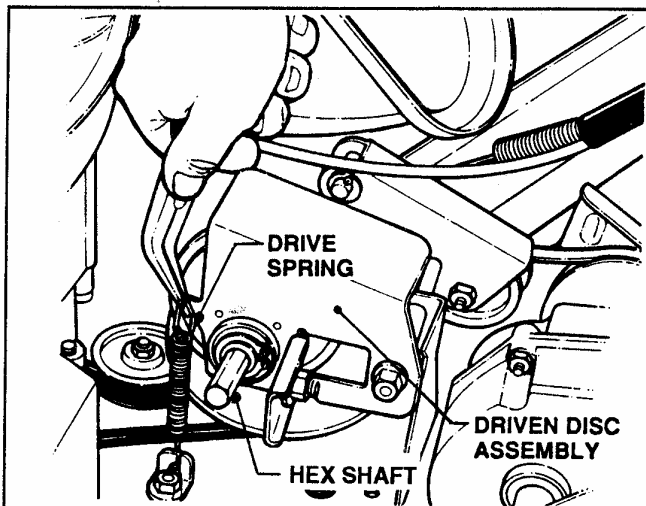
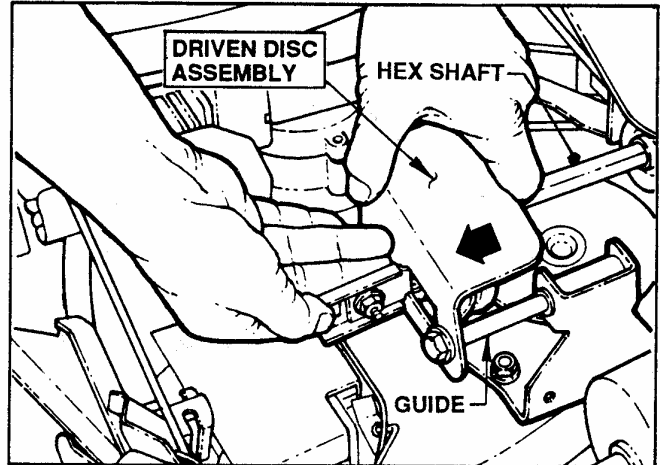

FIGURE 2
FIGURE 3
**STEP 2:** Unhook drive spring as shown in Figure 2 and remove the driven disc assembly by sliding off hex shaft. See Figure 3.